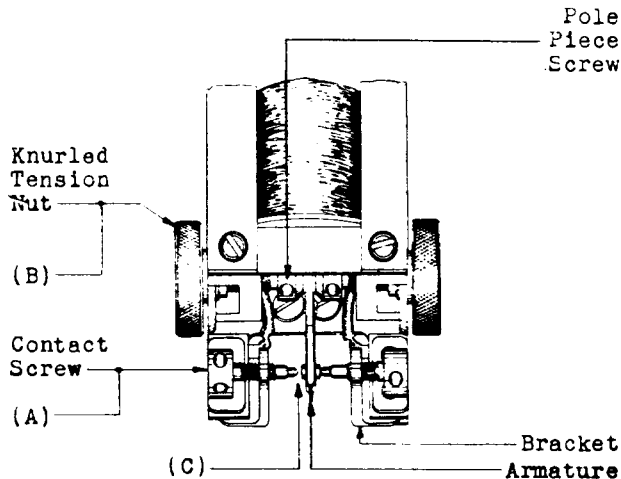

FIG. 4 - Tightness of Contact Screw and Pole Piece Knurled Tension Nuts and Contact Travel.
2.07 Tightness of Contact Screws - Fig. 4(A) Contact screws shall be sufficiently tight in their bracket to hold any adjusted position. Gauge by feel.
*2.08 Tightness of Pole-Piece Screw Knurled Tension Nuts - Fig. 4 (B) The knurled tension nuts shall be sufficiently tight to hold the pole-piece screws in the adjusted position but not too tight to be readily adjusted. Gauge by feel.
2.09 Contact Travel - Fig. 4 (C) The contact travel, that is the distance the armature can travel in passing from a position against one contact screw to a position against the opposite contact screw, shall be: Min. .003", Max. .005"